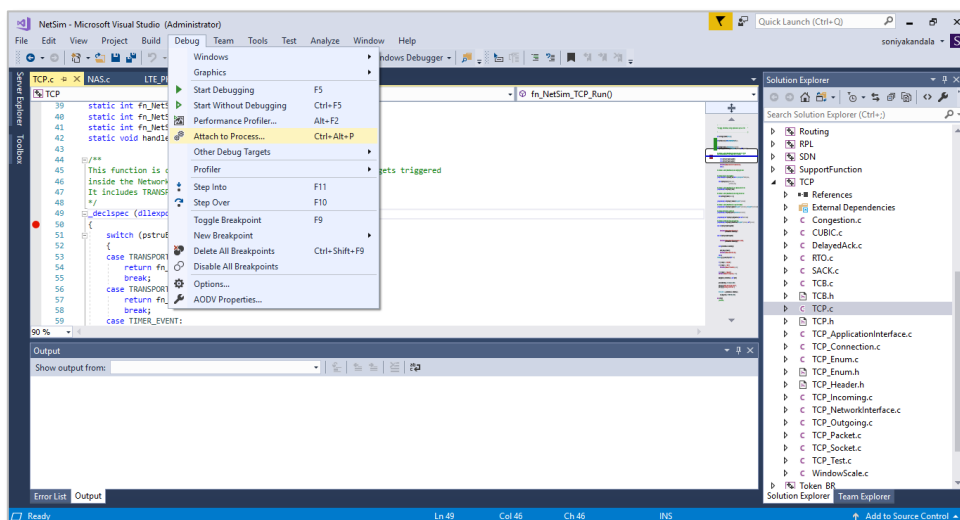

Figure 9-25: Debug > Attach to Process in Visual studio
Step 10: Go to “Debug→Attach to Process” in Visual studio as shown Figure 9-25 and select NetSimCore.exe from the list of processes displayed.